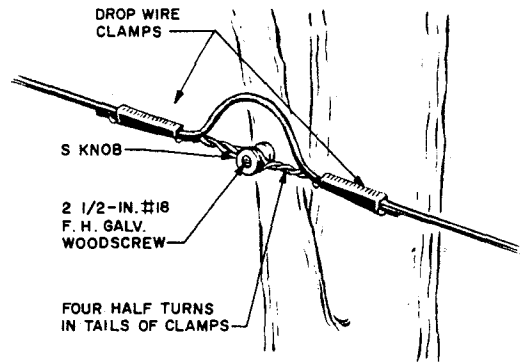

Fig. 16—Straight Run on Small Diameter Tree
**5.05** Use S knobs attaching drop wires to limbs or trunks of trees having diameters between 3 and 6 inches. Not more than one drop wire shall be attached to an S knob. On straight runs or corners, attach the drop wire to the S knob as shown in Fig. 16 and 17.